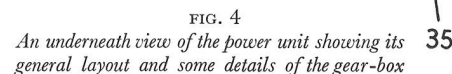
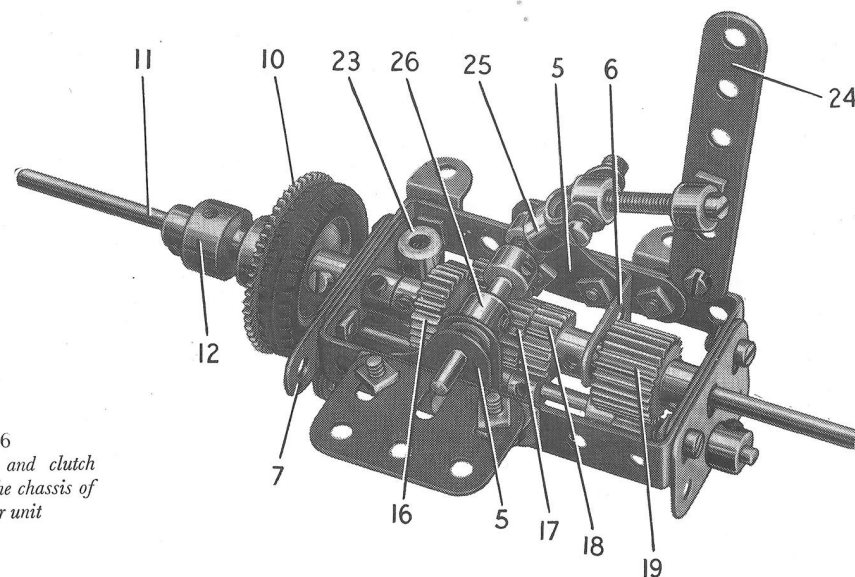
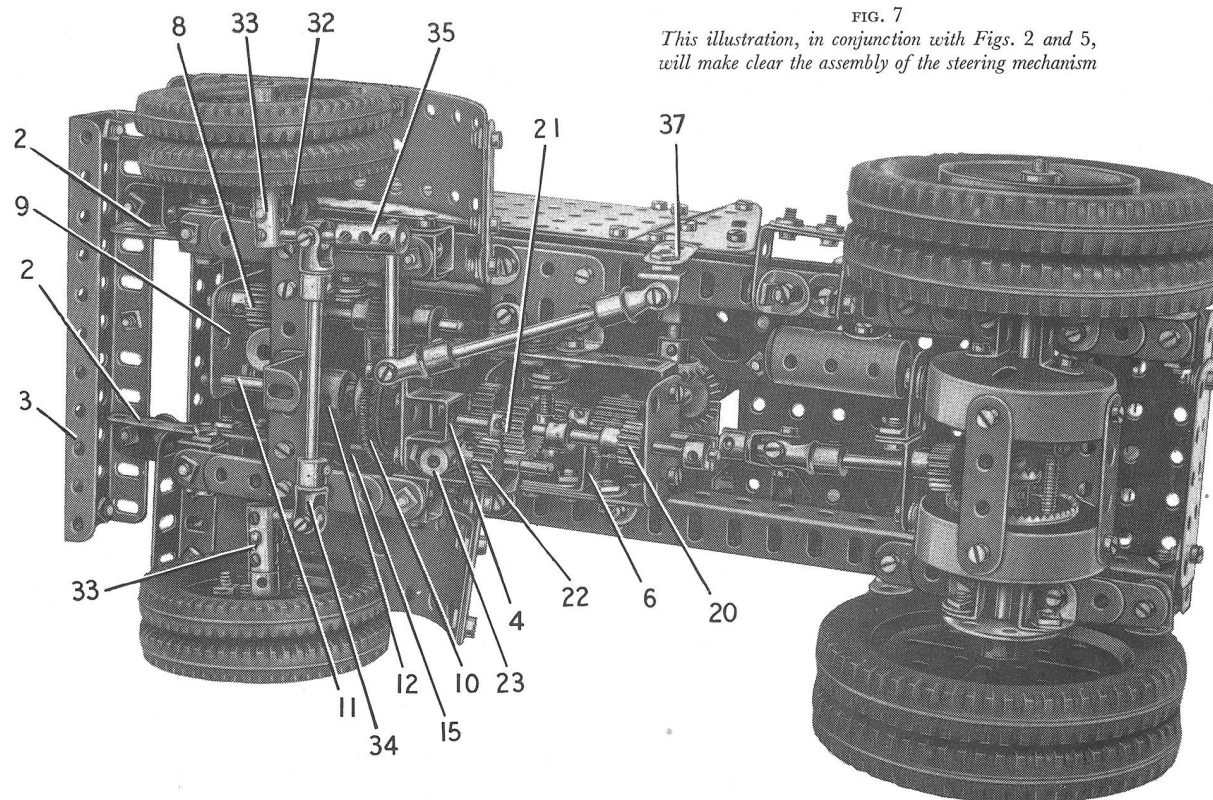

FIG. 4
FIG. 6
FIG. 7
side-members are connected by a  $5\frac{1}{2}'' \times 3\frac{1}{2}''$  Flat Plate and a  $3\frac{1}{2}''$  Angle Girder (1), to which a  $2\frac{1}{2}''$  Flat Girder is bolted. Each side-member is extended forward three clear holes by a  $2\frac{1}{2}''$  Angle Girder (2) (Fig. 7), and to these is bolted a  $5\frac{1}{2}''$  Angle Girder. A  $5\frac{1}{2}''$  Flat Girder is fixed to the  $5\frac{1}{2}''$  Angle Girder to support a further  $5\frac{1}{2}''$  Angle Girder (3). Two Flat Trunnions are bolted to the front edge of the  $5\frac{1}{2}'' \times 3\frac{1}{2}''$  Flat Plate as shown in Fig. 2.
An E15R Electric Motor is bolted by one of its flanges to one side-member of the chassis, and is connected to the other side-member by two Fishplates (see Fig. 2). The frame of the gear-box consists of two  $3'' \times 1\frac{1}{2}''$  Double Angle Strips bolted together by their lugs, with a  $1\frac{1}{2}''$  Flat Girder attached at each end by bolts passed through its slotted holes. To one of the Flat Girders is fixed a Double Bent Strip (4) (Fig. 4), and to each Double Angle Strip is bolted a  $1''$  Corner Bracket (5) (Fig. 6). A  $1'' \times 1''$  Angle Bracket (6) is attached
Two Angle Brackets also are bolted to one side of the frame, and these are fixed direct to the chassis side-member. Two further Angle Brackets are spaced from the other side of the frame by a Washer on each bolt, and a  $1\frac{1}{2}''$  Flat Girder bolted to these Angle Brackets (see Fig. 6) is attached to the chassis.
A Worm is fixed on the Motor shaft and is arranged to drive a  $\frac{1}{2}''$  diameter,  $\frac{1}{2}''$  face Pinion (8) (Fig. 7) fixed on a  $3\frac{1}{2}''$  Rod. This Rod is mounted in the Strip (7) and in a  $1\frac{1}{2}''$  Flat Girder (9) that is supported by a  $1\frac{1}{2}''$  Angle Girder bolted to the Motor. The Pinion (8) is spaced from the Flat Girder by four Washers and the Rod is held in position by a Collar. The  $3\frac{1}{2}''$  Rod also carries a  $\frac{1}{2}'' \times \frac{1}{4}''$  Pinion that drives a 57-tooth Gear (10) on a  $5''$  Rod (11). This Rod is supported in the Flat Girder (9) and in one end of the gear-box frame, and it forms the gear-box main shaft. The Gear (10) is gripped in a Socket Coupling (12) that is free to turn on Rod (11). The Gear is pressed by a Compression Spring against a Motor Tyre on a  $1''$  Pulley fixed on Rod (11). The Compression Spring is placed between the Socket Coupling (12) and a Collar, and this assembly forms the clutch mechanism.
Top gear is obtained by sliding the layshaft so that Pinion (21) (Fig. 7) engages both Pinions (17) and (18) (Fig. 6). Second gear is provided by meshing Pinion (19) (Fig. 6) with Pinion (20) (Fig. 7) and Pinion (21) (Fig. 7) with Pinion (17) (Fig. 6). Reverse is obtained when Pinion (19) (Fig. 6) is in mesh with Pinion (20) and Pinion (21) engages the reverse Pinion (22) (Fig. 7), which is in constant mesh with Pinion (16) (Fig. 6).
A  $3\frac{1}{2}$ " Rod is passed through one half of the casing and on it a  $1\frac{1}{2}$ " Contrate (28) is mounted *freely*. A  $\frac{3}{4}$ " Contrate (29) is *fixed* on the Rod, which extends into a Coupling (30). Two 1" Screwed Rods are fixed by nuts in the Contrate (28) and on each of them a Collar is screwed as shown. A  $1\frac{1}{2}$ " Rod passed through the Coupling (30) is fixed in the Collars. Two  $\frac{3}{4}$ " Pinions are mounted freely on Pivot Bolts, which are screwed into the Coupling (30) opposite to each other. These Pinions engage the Contrate (29), and mesh also with a similar Contrate on a 3" Rod passed through the other half of the axle casing. Washers are placed on the 3" and  $3\frac{1}{2}$ " Rods so that the Pinions and Contrates mesh accurately, and so that the Contrate (28) engages a  $\frac{1}{2}$ " Pinion on a  $1\frac{1}{2}$ " Rod supported in one of the Angle Brackets (27). This Rod is connected by a Universal Coupling to the gear-box output shaft (see Fig. 7).
The completed axle is connected by two Angle Brackets to each of the rear springs (see Fig. 7). These are each made from two  $3\frac{1}{2}$ " Strips and a  $2\frac{1}{2}$ " Strip and are attached to the chassis by  $\frac{3}{8}$ " Bolts, each of which is fitted with an Angle Bracket. The rear ends of the springs are spaced from the chassis by four Washers on each Bolt.
Each of the front wheels (see Figs. 4 and 7) consists of two 2" Pulleys clamped together by four  $\frac{3}{4}"$  Bolts that fix a Wheel Disc to the face of the outer Pulley. The wheel is mounted freely on a  $1\frac{1}{2}"$  Rod held in a Coupling (33). These Couplings are fixed on 1" Rods that are free to turn in the Cranks (32) and are
freely on a  $3\frac{1}{2}"$  Rod that carries a  $\frac{7}{8}"$  Bevel Gear (36). The Rod is fitted also with a Crank (37) (Fig. 7), and is held in the chassis side-members by a Collar. An Angle Bracket is *lock-nutted* to Crank (37) and to the Angle Bracket in turn is *lock-nutted* an End Bearing fitted with a  $2\frac{1}{2}"$  Rod. This Rod is connected by a swivel bearing to a 2" Rod fixed in the Coupling (35). The swivel bearing is obtained from a Universal Coupling.
A protection plate is arranged underneath the steering mechanism as shown in Fig. 4. The plate is attached to the Girder (3) (Fig. 2) by Obtuse Angle Brackets, and is supported by a 1" Reversed Angle Bracket bolted to the axle beam.